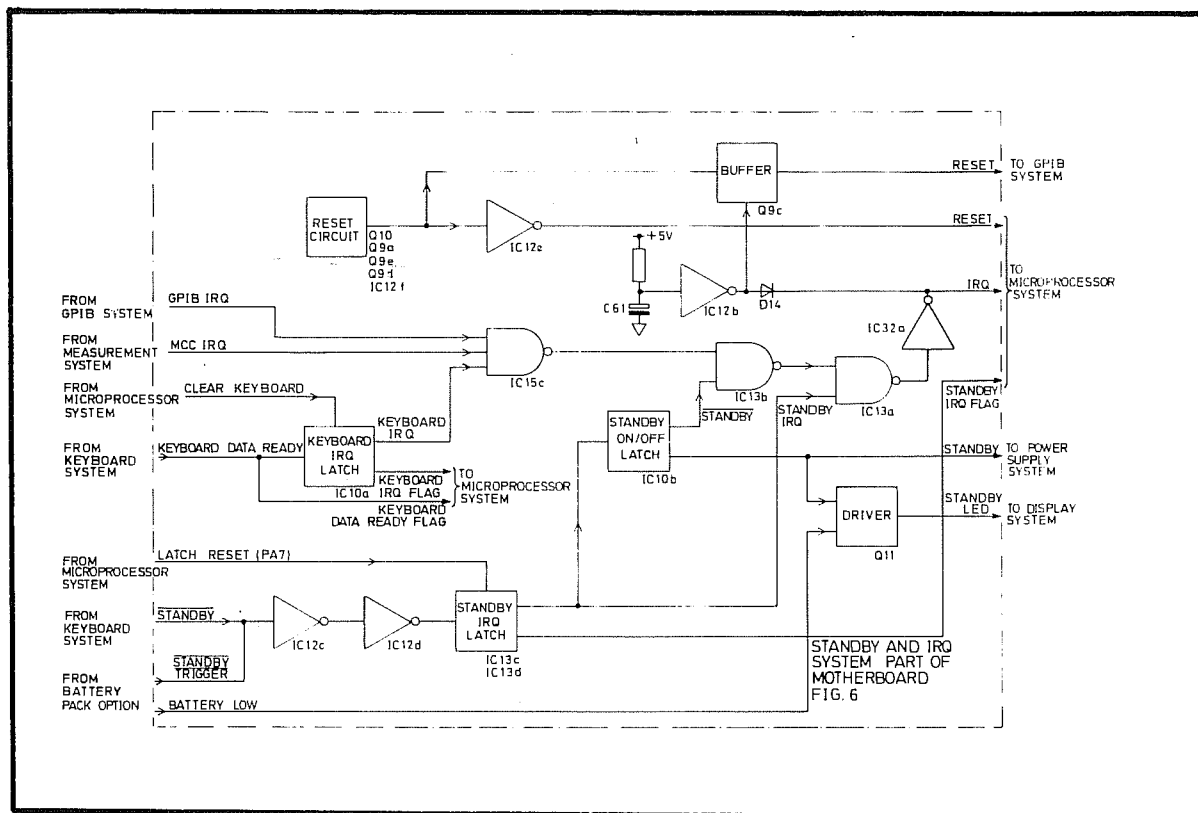

Fig 6.8 The Standby and IRQ System
- 63 The system generates reset signals for the microprocessor and GPIB interface, and the standby switching signal for the power supply system. It also combines the IRQ signals from the GPIB interface, the measurement system and the keyboard system for connection to the microprocessor. A block diagram is given in Fig 6.8.